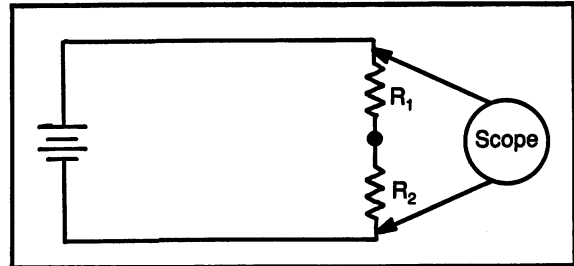

Fig. 9-19. Oscilloscope is used to measure voltage drop across R_2 .
- (11) Connect the scope probe to the connection between the two resistors, as shown in Fig. 9-19, and the ground to the negative side of the battery. This connection will measure the voltage